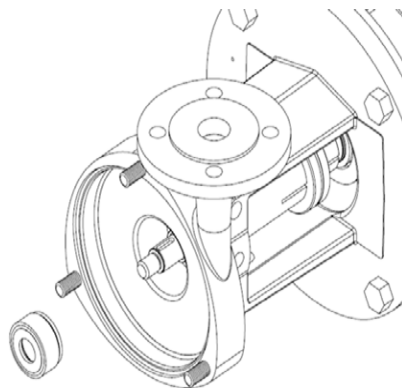

Figure 5
7. The rotating seal, o-ring, and spring will come out as a single component, Figure 5.